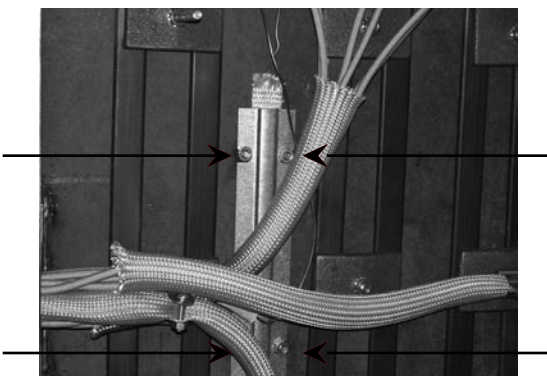

Fig. 2
- Remove four nuts which position the thermostat bulb cover in place. (See Fig. 2)